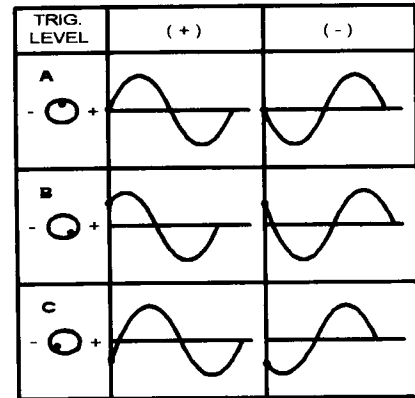

Fig. 3. Effects of triggering LEVEL control
To use normal triggering mode, apply a vertical input signal to the INPUT connector (13). Set the scope controls for a basic signal display. Set the MODE switch to the NORM position. The voltage level of the displayed waveform that triggers the horizontal sweep is now controlled by the LEVEL control (8). If the input is a sine wave, the function of the LEVEL control is shown in Fig. 3. With the LEVEL control pushed in (column (+) in Fig. 3) the trigger will occur on the positive-going portion of the waveform. When the LEVEL control is pulled out, the trigger will occur on the negative-going slope of the waveform (column(-) in Fig. 3) When the LEVEL control is moved clockwise, the triggering point will move more positive on the waveform (line B on Fig. 3). If the LEVEL control is turned counterclockwise, the triggering point will move more negative on the waveform (line C on Fig. 3) The display must be at least one division high to obtain proper triggering. Turning the trigger LEVEL control to the extremes may cause the trigger level to be set beyond the voltages of the displayed signal. which will result in cessation of the sweep. In the normal trigger mode, the horizontal sweep will not begin without a trigger. Once the sweep is triggered, it will make one sweep at the rate set by the TIME/DIV. and the SWP.VAR control, then it will wait for the next trigger pulse.